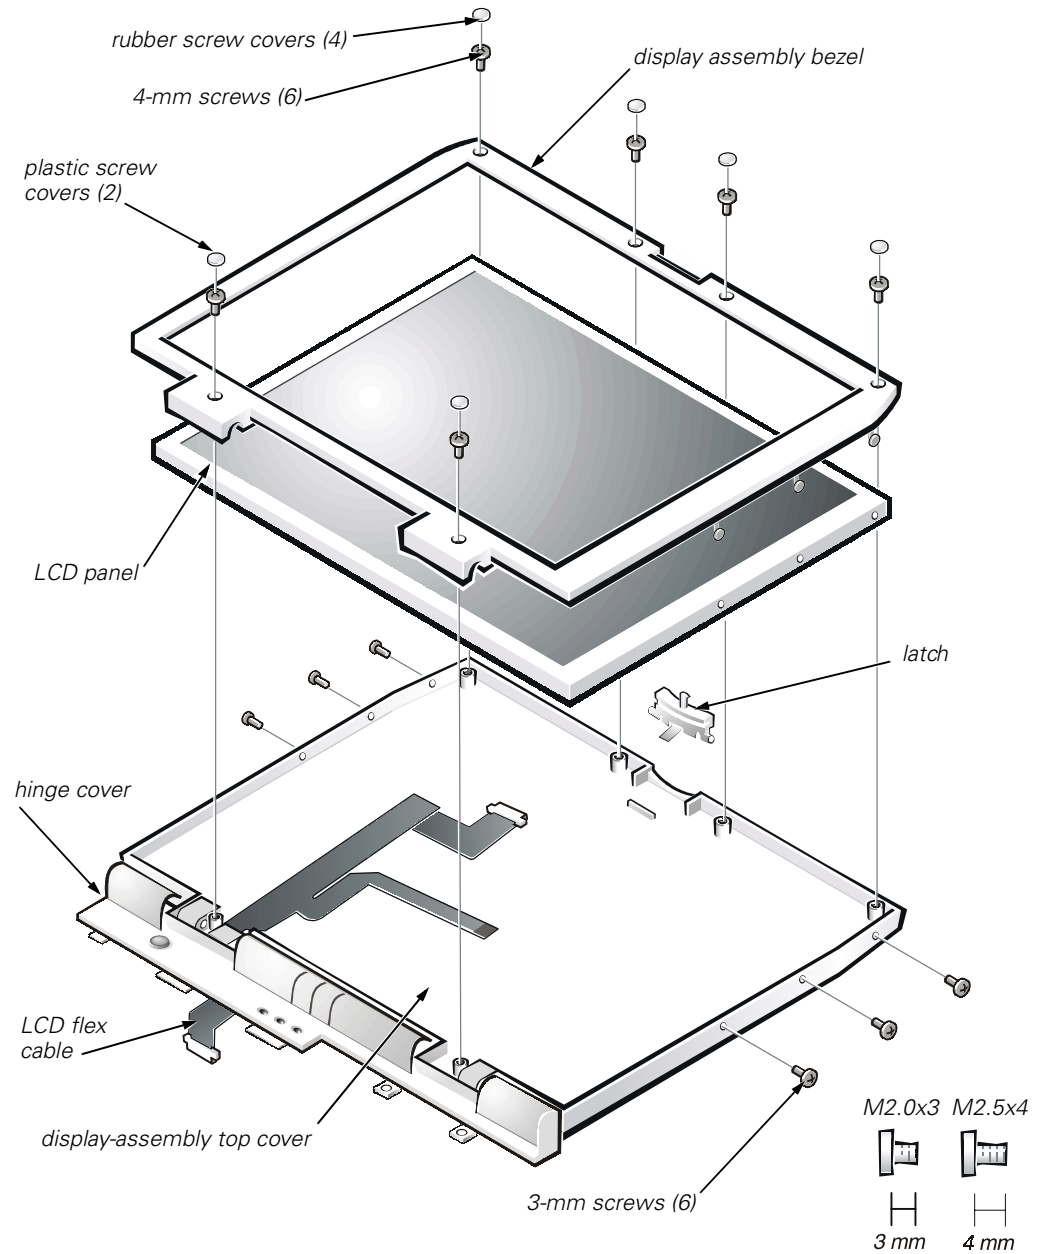

Figure 14. 14.1-Inch Display Assembly
2. Remove the four 4-mm screws located at the top of the bezel on the front of the display assembly (see Figure 14).
5. Remove the three 3-mm screws on the left side of the LCD panel and the three 3-mm screws on the right side of the LCD panel (see Figure 14).
1. Remove the 4-mm screw securing the metal cable clip to the left hinge of the display-assembly top cover (see Figure 14).
3. Remove the display assembly latch by unsnapping the latch and captive spring from the inside of the display assembly top-cover assembly (see Figure 14).